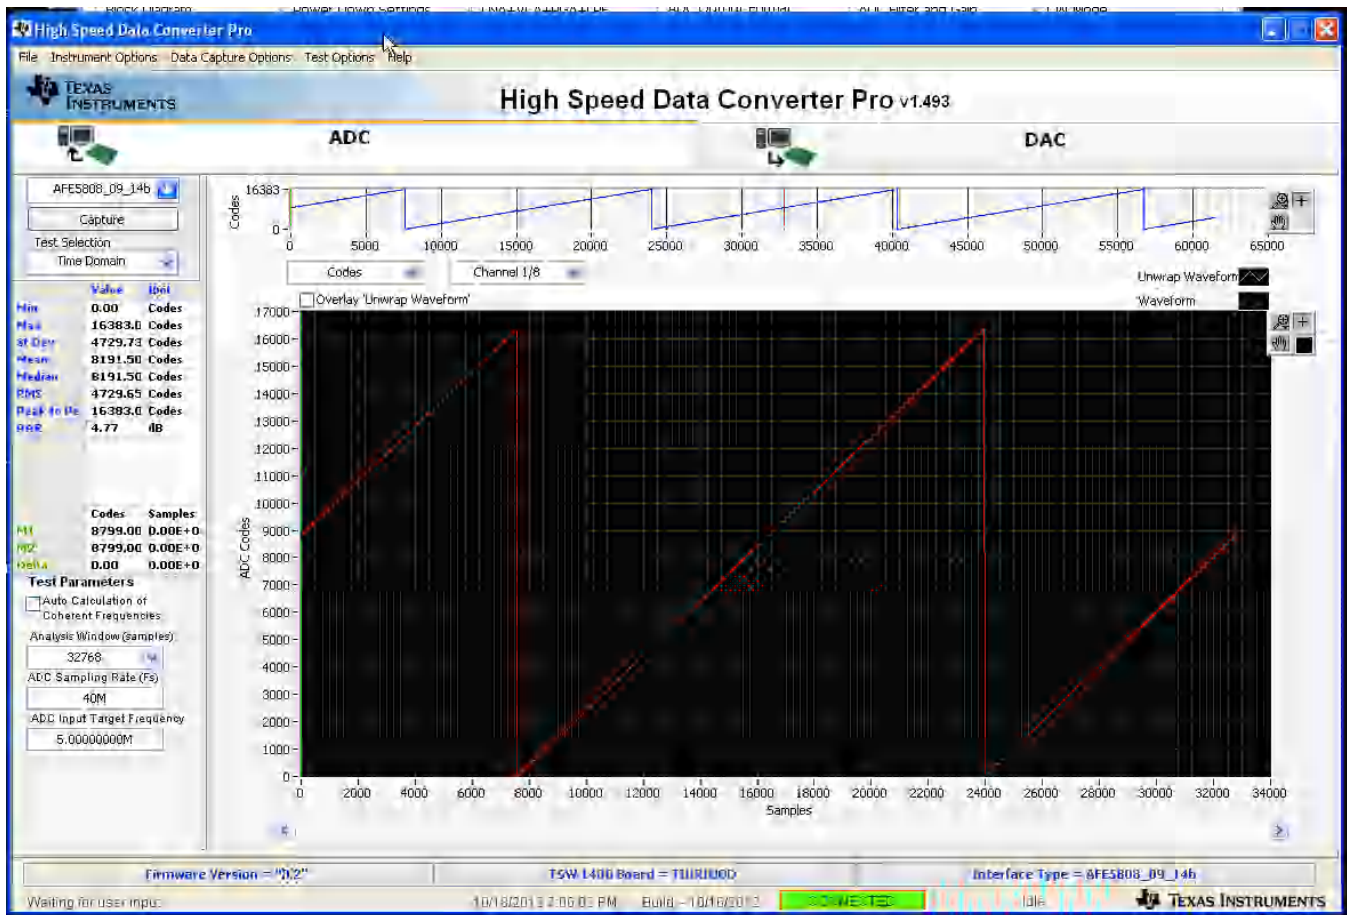

Figure 8. Ramp Waveform Output
- Press the Capture button on the TSW1400 GUI. This displays a ramping waveform on the TSW1400 GUI display area as shown in Figure 8.
- If each channel has the output as shown in Figure 8, proceed with the next step; otherwise, contact the TI FAE to troubleshoot the problem.